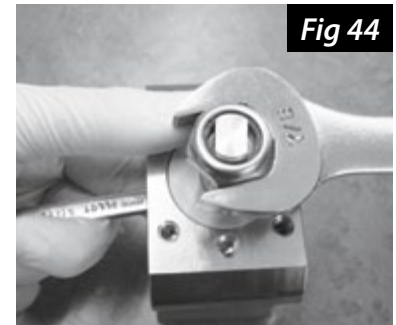

Fig 44
6. Remove the stem nut with a 7/8" wrench. Hold the valve stem in place by grasping the base of the stem on the inside of the valve body with a 5/16" or 8mm open-end wrench or an adjustable wrench (Fig 44).